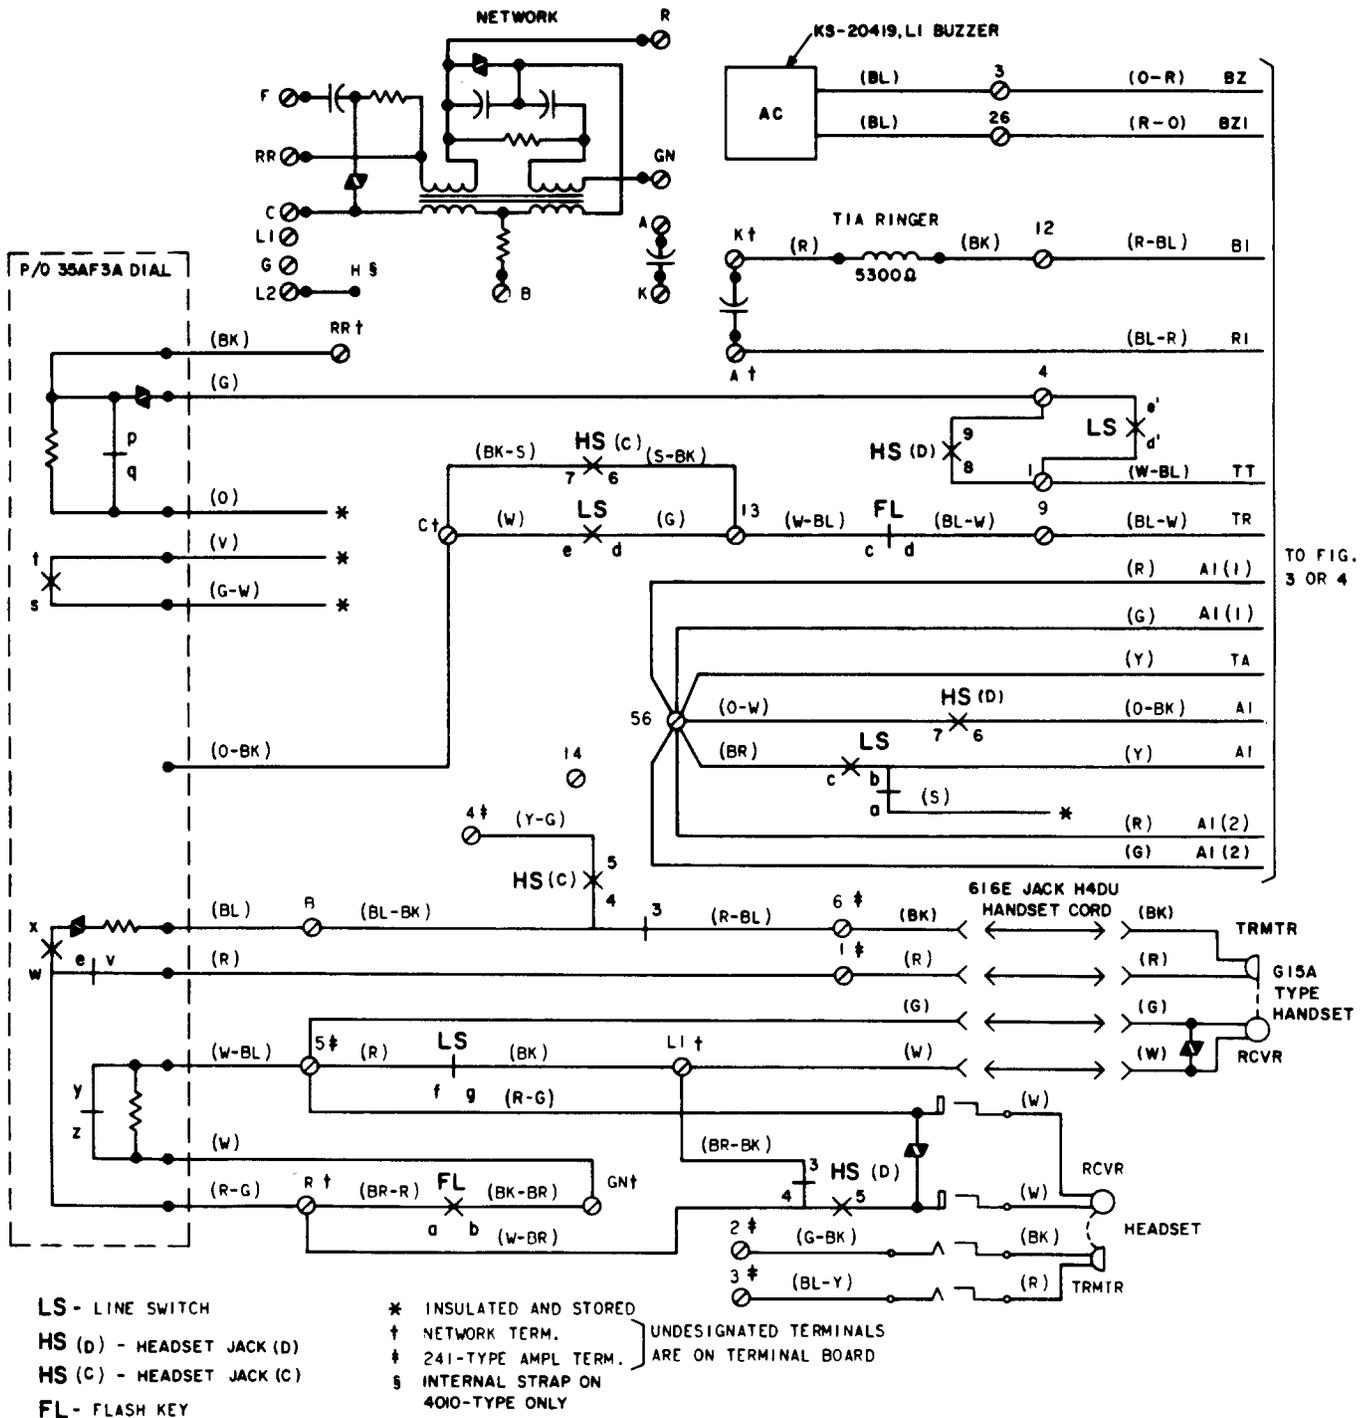

Fig. 3—2638CAMS1 and 2639DAMS1 Telephone Set, Connections
- Add the 2638CAMS1 and 2639DAMS1 telephone sets, new Fig. 3
1. THE 635AD5C KEY IS SUPPLIED WITH AN ADAPTER IN THE CUTOFF KEY POSITION. IN SETS EQUIPPED WITH D50AH (MD) OR D80D (MD) MOUNTING CORD, CONTACT STRIP ASSEMBLIES 840151039 AND 840151047 FURNISHED WITH THE 635AD5C KEY REPLACE THE 840151120 AND 840151138 ASSEMBLIES USED WITH THE 635A5C KEY. THE SLATE MOUNTING CORD PLUG CONNECTS TO THE ADAPTER. BALANCE OF PLUGS CONNECT DIRECTLY TO KEY.
2. IF A 635AD5C KEY IS ADDED IN THE FIELD, FOR RINGER CUTOFF TERMINATE THE (BL-Y) ADAPTER LEAD AS INDICATED IN NOTE 6 AND REMOVE (R) SLATE PLUG LEAD FROM TERMINAL 22, INSULATE AND STORE.
4. IN SETS EQUIPPED WITH A658A KEY, THE (G) CONTACT STRIP OR PLUG STRAP LEAD IS TERMINATED ON TERMINAL 10 AND (R) ON 11. IF A 658A KEY IS ADDED IN THE FIELD, LEADS MUST BE MOVED FROM PRECEDING MODULE CHAINING CIRCUIT TO TERMINALS 10 AND 11. PROVISIONS ARE MADE FOR MECHANICALLY STORING THE LIGHT BEIGE PLUG ON THE 658A KEY. NO ELECTRICAL CONNECTION IS MADE.
8. CONTROL LEADS CA TO CJ ARE CONNECTED TO TERMINALS 57 TO 65. THESE TERMINALS APPEAR ON MORE THAN ONE OF THE MODULE SHEETS OF FIG. 3 AND 4 BUT ARE THE SAME TERMINAL.
9. THESE CONTACT STRIPS ARE REQUIRED WHEN TELEPHONE SET IS EQUIPPED WITH THE D50AH (MD) OR D80D (MD) MOUNTING CORD. THESE CONTACT STRIPS SHOULD NOT BE USED WHEN TELEPHONE SET IS EQUIPPED WITH THE D50BD OR D80E MOUNTING CORD.